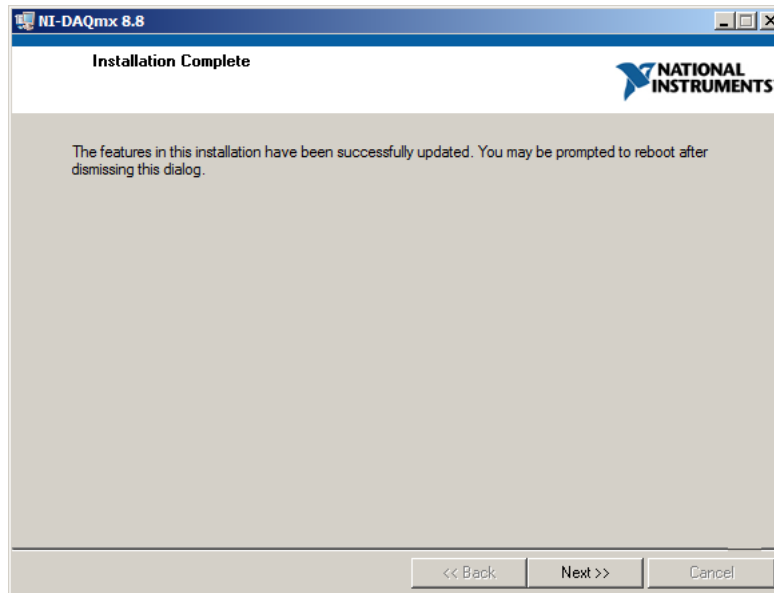
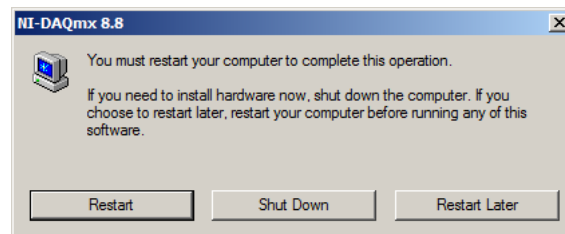

Figure A.10: Completion window.
Figure A.11: Reboot request.
- After the installation is complete (Figure A.10) the PC should be rebooted (Figure A.11) to ensure that the drivers will be available when the support unit is connected to the PC.